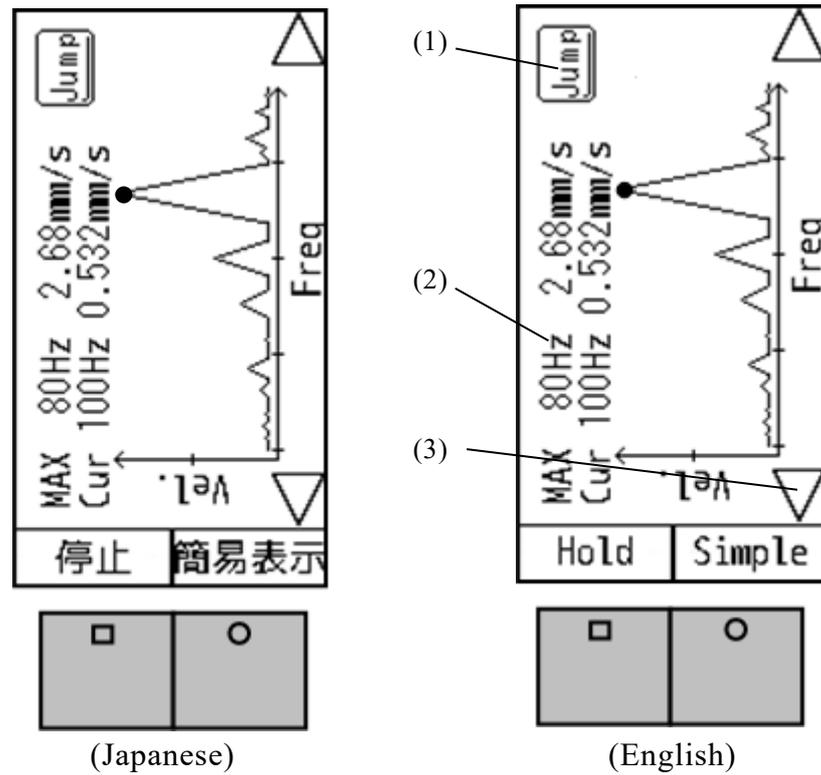

Fig.5-3 Detail of FFT
(2) Maximum frequency and its value.
(3) Details will appear as you press the function button (Fig.5-3).